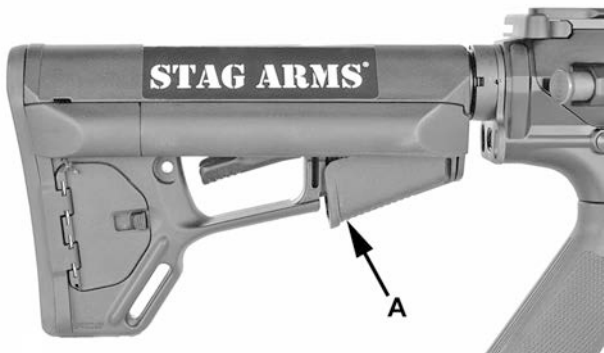

Figure 49
To extend or retract the buttstock, squeeze lever (A) and move buttstock to the desired position. See figure 49.